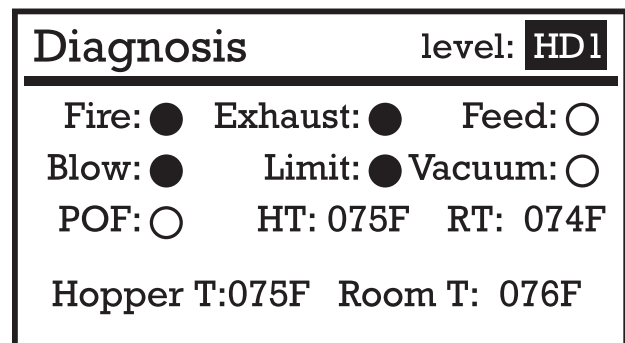

Figure 29
2. Using the **SCROLL DOWN** key, move to option 5, "**DIAGNOSIS**". Press **ENTER**. This will take you to the "**DIAGNOSIS**" screen. **SEE FIGURE 29.**